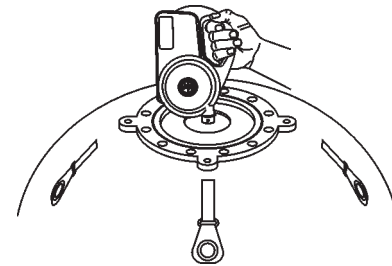

Figure 21. Expanding the Balloon PVC Material
2. Unfold the PVC material of the balloon enough to allow the light fixture to be inserted into the balloon base. If necessary, use the supplied blower to help expand the PVC material as shown in Figure 21.